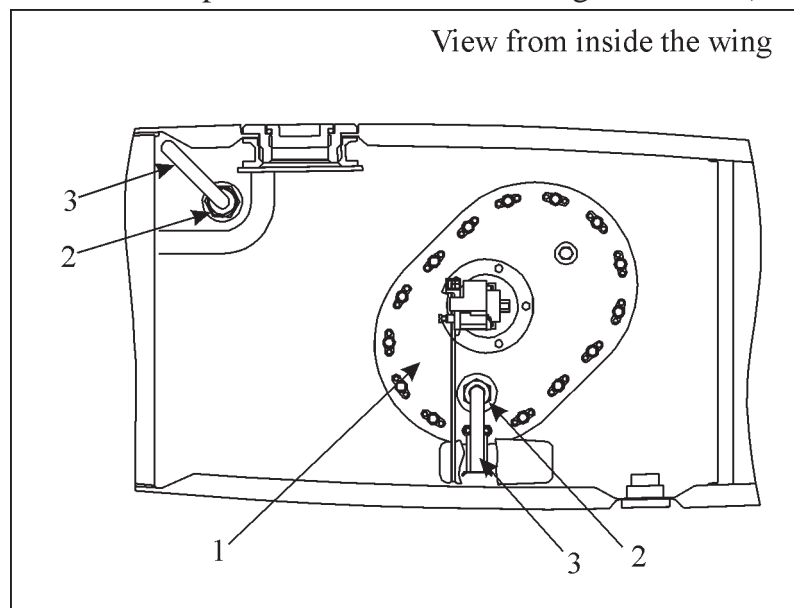

Figure 5 Wing Tank Outlets Removal/Installation
- 1 Remove the inspection door (1) (refer to figure 5) per chapter 28-10-04.
- 2 Remove the union nuts (2) and the elbow tubes (3).
- 5 Install in reverse sequence of removal after applying 3M Brand Fuel Resistant Coating 776 (3M, St. Paul, USA) to the sealing surfaces (fitting to tank root rib). Ensure that the outlet end positions are as shown in figure 5 below).